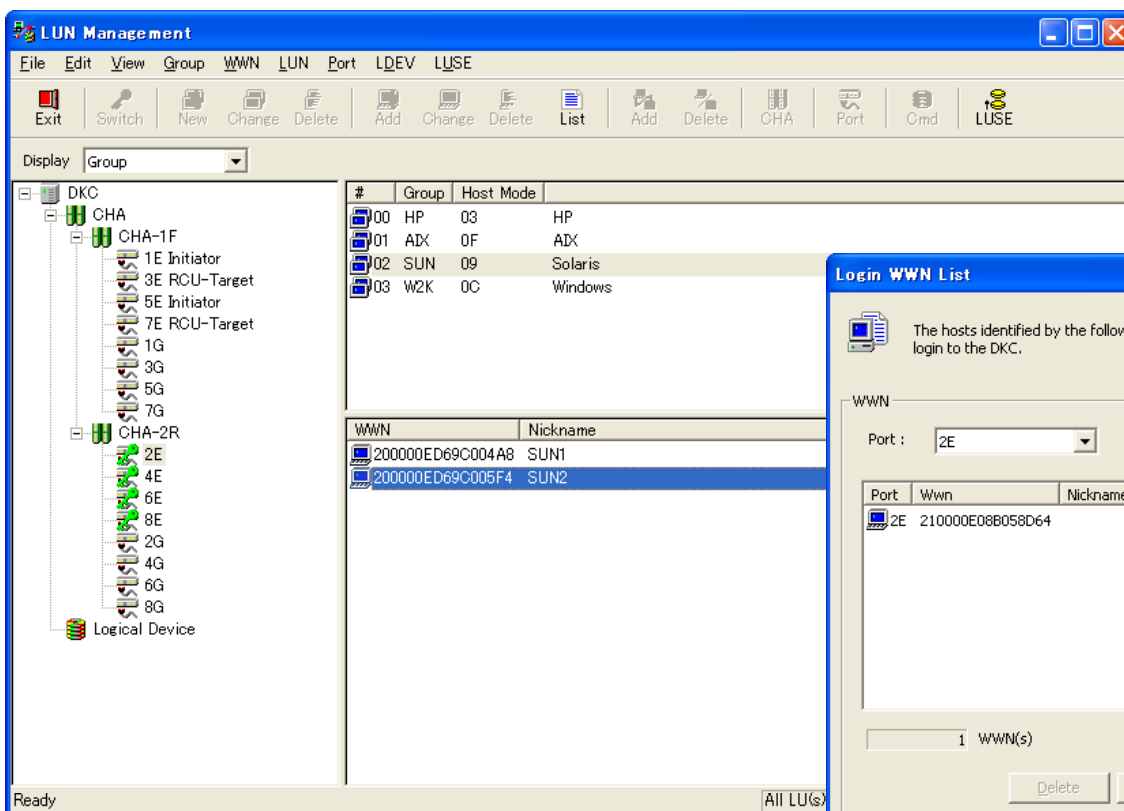
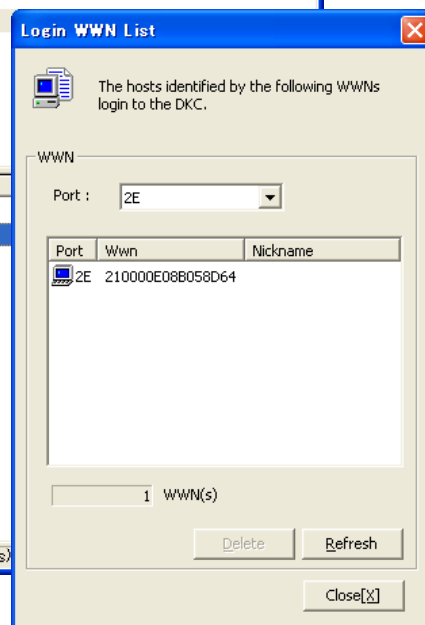

Fig. 3.17-7 Main Window
Fig. 3.17-8 Login WWN List Window
Select (DR) [Login List] from the [WWN] menu in the Main Window (Fig. 3.17-7), Login WWN List Window (Fig. 3.17-8) is displayed.